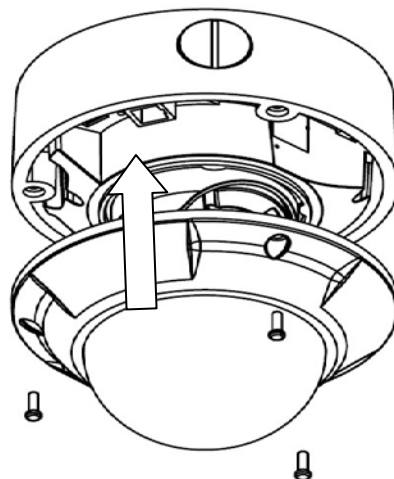

Figure 2.3.4 Install the Cover
Step 4: Tighten the screw after adjusting camera's view angle, and cover the transparent casing. Figure 2.3.4